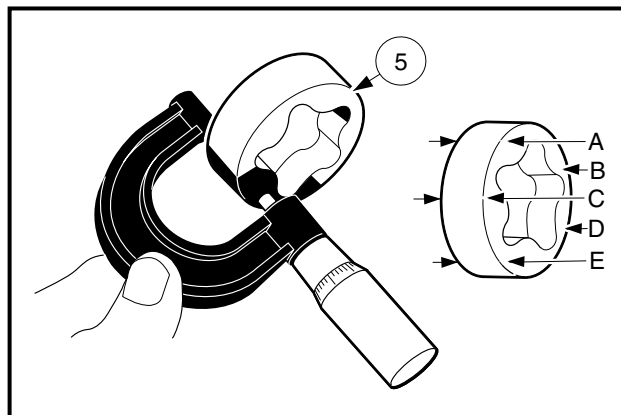

Figure 13-70 Measure Outer Rotor Thickness
- 4.4. Using a micrometer, measure the thickness of the outer rotor at several points (**Figure 13-70, Page 13-34**).